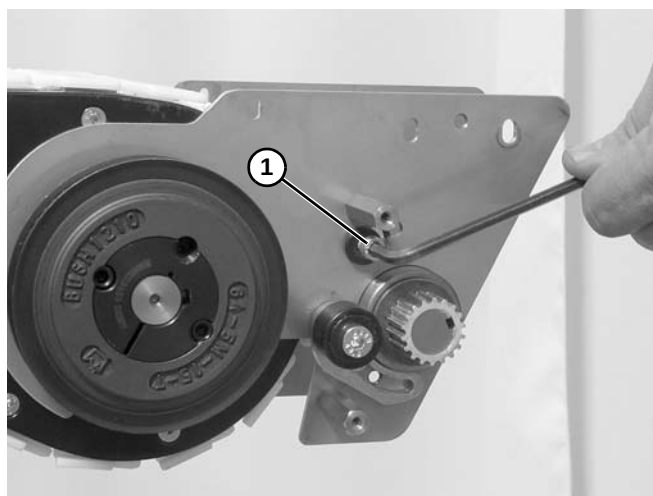

Figure 111
12. Remove socket head screw (**Figure 111, item 1**) on both sides of the conveyor and remove idler assembly.